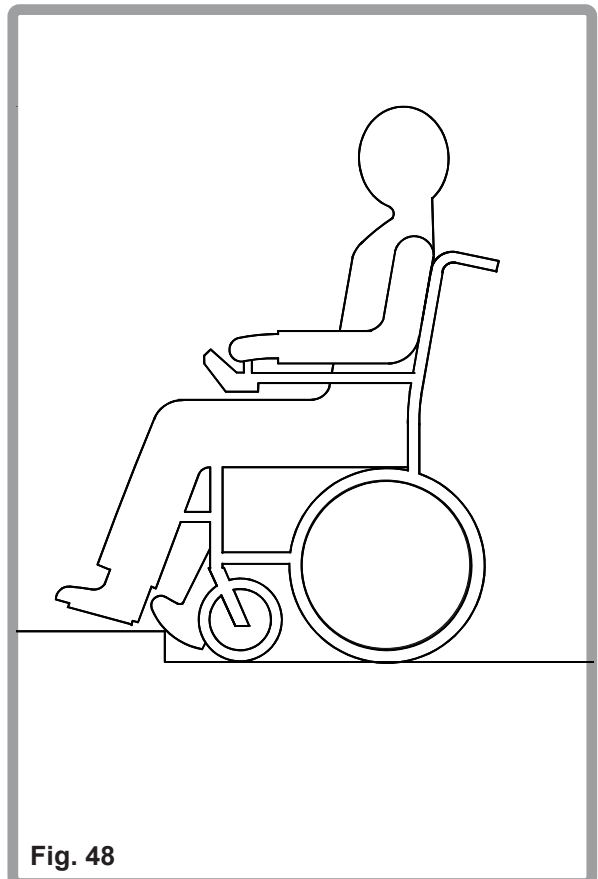

Fig. 48
1. Approach the kerb head on driving forwards slowly and steadily (Fig. 48).